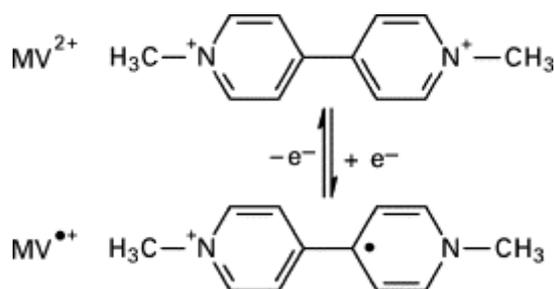

Figure 15:  $MV^{2+} \leftrightarrow MV^+$
Methyl Viologen (MV) is also known as paraquat. It is used as a herbicide, but due to its toxicity for humans and scientific studies showing links between methyl viologen and Parkinson's disease it has lost popularity. Methyl viologen's toxicity is based on its RedOX chemistry. The reduction of the colorless ion  $MV^{2+}$  leads to the blue radical ion  $MV^+$  (see Figure 15).